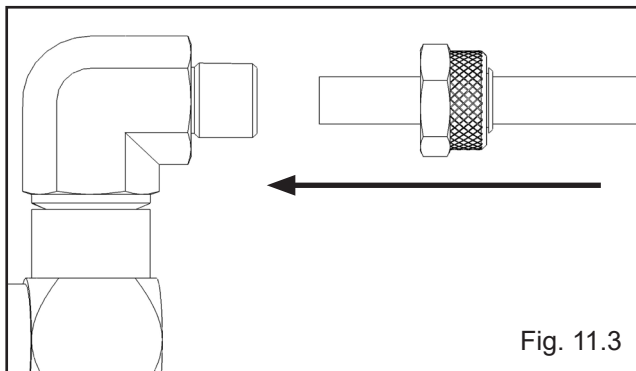

Fig. 11.3
2. Remove the captive nut on the Compression Fitting. Insert the Plastic Air line through the alignment sleeve and into the end of the fitting until it bottoms out. Then tighten the nut on the fitting. (See Fig 11.3)